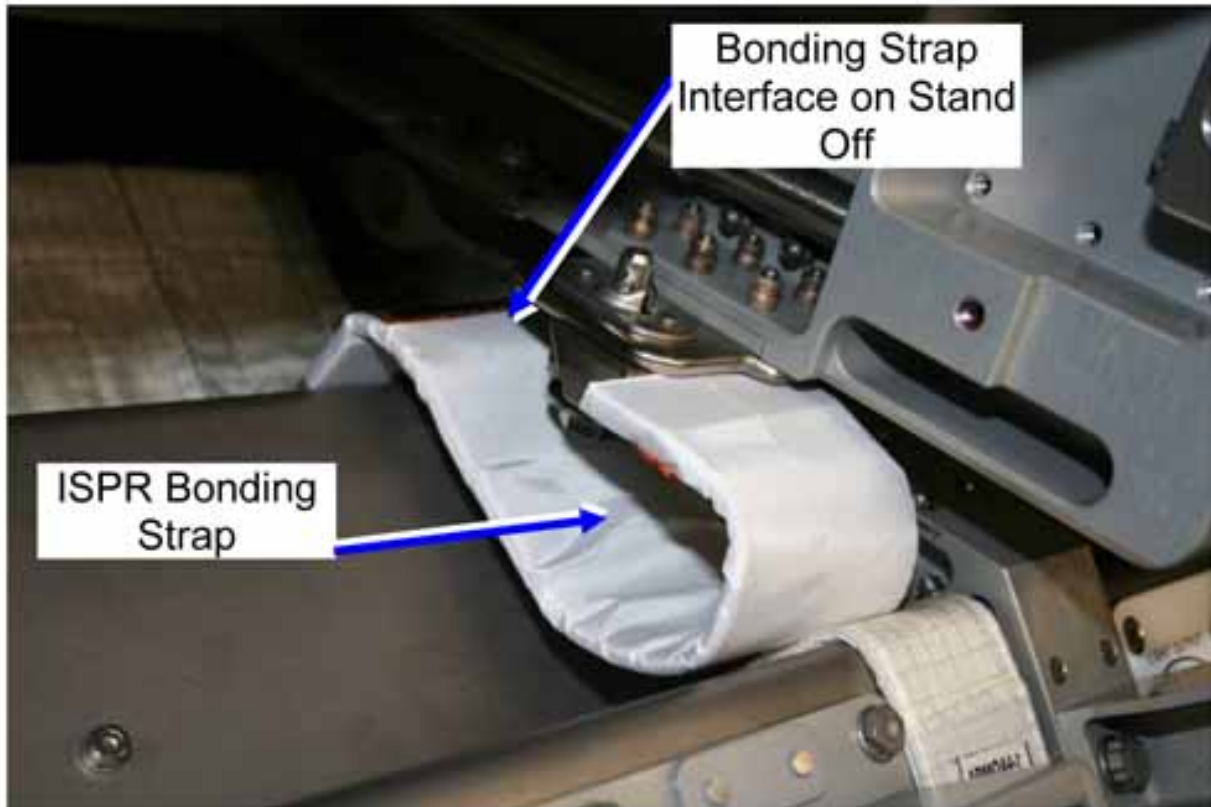

Figure 8. ISPR Bonding Strap interface on Stand Off
- 3.5 Loosen the ISPR[X] Bonding Strap from the Stand Off interface, quarter-turn fastener (one) (Ratchet Wrench 1/4"; 102 mm Extension 1/4" Drive; M8 (13 mm) Socket 1/4" Drive). Refer to Figure 8.
6.1 Install ISPR Bonding Strap on ISPR Bonding Strap Interface on Stand Off, quarter-turn fastener (one) (Combination wrench, 12 point, 9/16"). Refer to Figure 8.